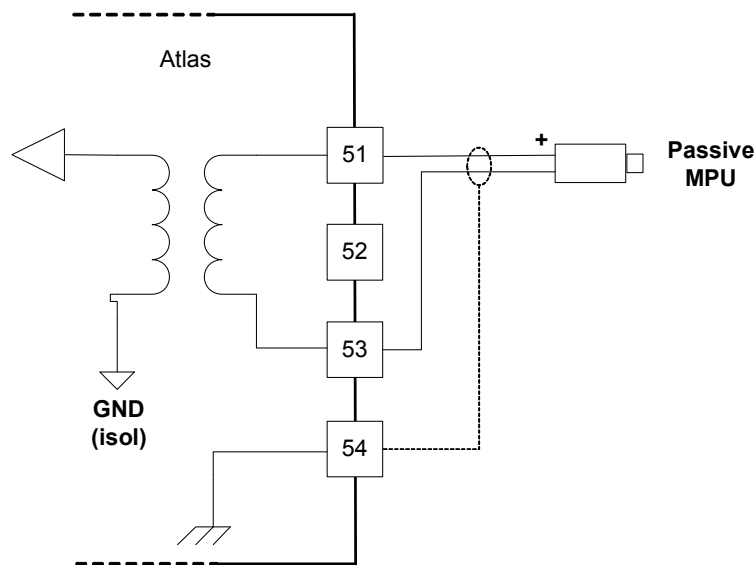

Figure 6-3. Wiring Example—MPU Interface to the SmartCore Board
- Refer to Figures 6-3 and 6-4 for speed sensor wiring.